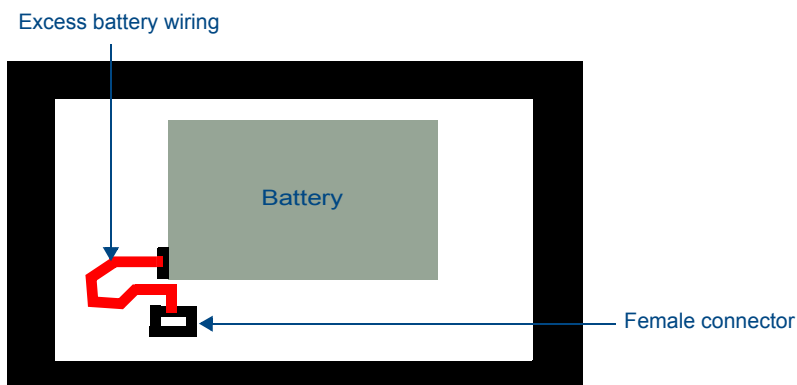

FIG. 91 Battery installation and connection diagram
4. Disconnect and remove the old battery from the female connector (FIG. 91).
6. Install the new battery, making sure that the label faces outward and the battery connector wiring runs to the left (FIG. 91). Make sure that the excess battery wiring fits in the space to the bottom left of the battery.